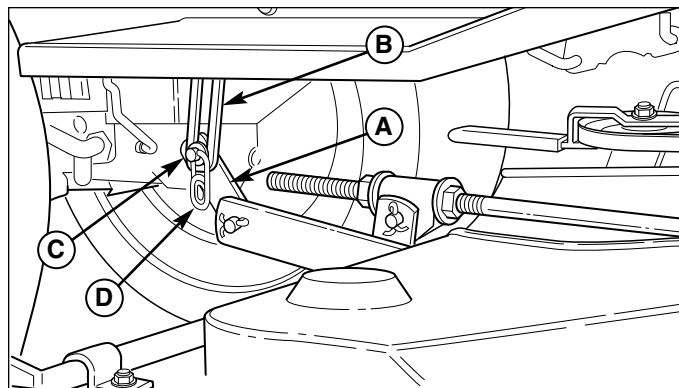

Figure 6. Lift Arms
4. Disconnect the mower lift arm (A, Figure 6) from the tractor lift arm (B). Re-install washer (C) and safety clip (D).
4. See Figure 6. Connect the mower lift arm (A) to the tractor lift arm (B) using the flat washer (C) and safety clip (D).